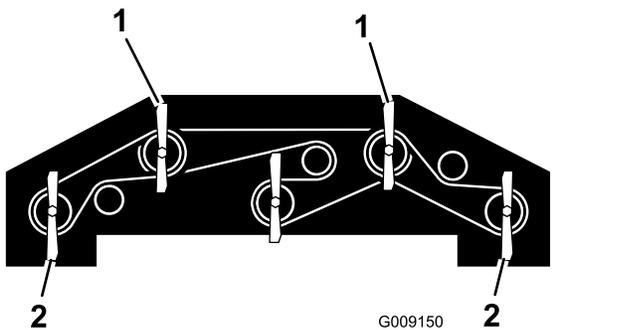

Figure 139
1. Rotate each blade so that they point straight forward (Figure 139).